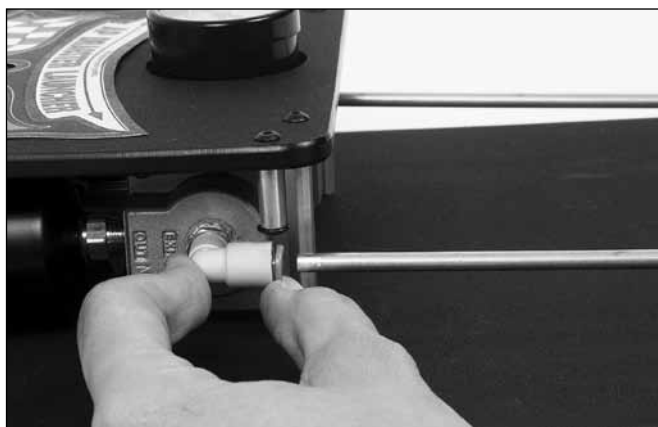

Figure 7
1) At the base of each brass tube is a plastic collar that sits in the valve that goes into the mechanism of the launcher. Press this in while pulling out the bent brass tube (Figure 7).